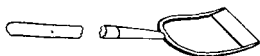

FIG. 17. Scuffle Hoe.
*The Scuffle Hoe*, shown in Fig. 17, is an excellent old-fashioned implement for shallow cultivation, such as is needed in spring in the garden. Besides, it is so very cheap and simple that it can be made by any handy blacksmith. It cannot be recommended to take